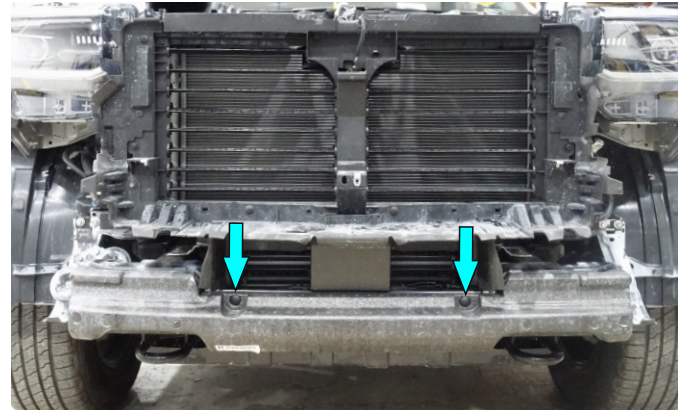

Fig.14
14. Remove plastic clips and polyfoam damper fig. 14).